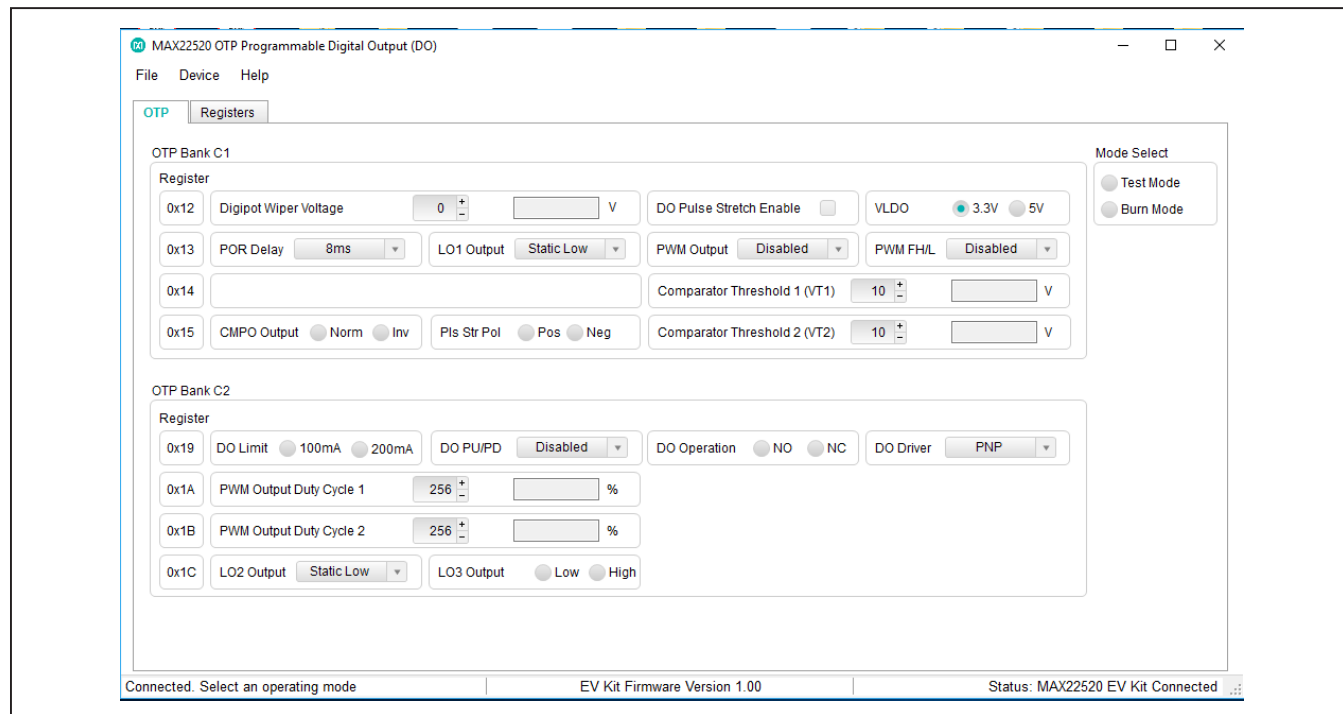

Figure 1. MAX22520 EV Kit Software, EV Kit is Connected
- 8) Click on the **Device** menu and select **Connect** to connect to the board. Verify that **Status: MAX22520 EV Kit Connected** is displayed on the status bar at the bottom right of the main window (Figure 1). Note that the voltage on the VCC test point is 0V (typ) when the board is connected.
In the **OTP** tab (Figure 1), use the drop-down menus, counters, and radio buttons to enable/disable functionality and set desired thresholds. Press the **Write Registers** button to write values to all of the registers in both OTP